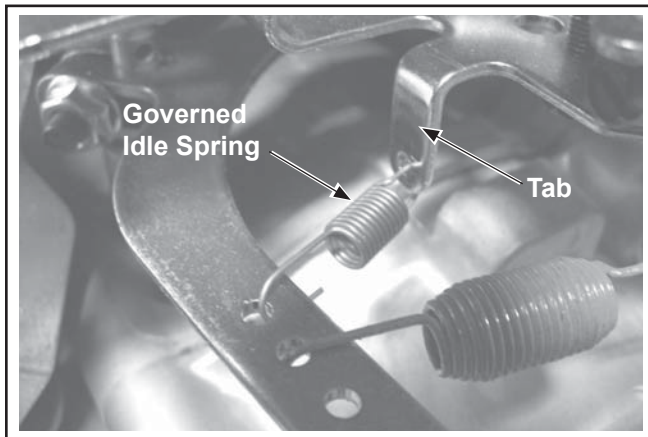

Figure 5-7. Governed Idle Spring Location.
An optional governed idle control system is supplied on some engines. The purpose of this system is to maintain a desired idle speed regardless of ambient conditions (temperature, parasitic load, etc.) that may change. Engines with this feature contain a small secondary spring connected between the governor lever and the lower adjustment tab of the main bracket. See Figure 5-7.
3. Release the governor lever and allow the engine to return to the governed idle speed. Check it with a tachometer against the equipment manufacturers recommended idle speed. Governed Idle Speed (RPM) is typically 300 RPM (approximate) higher than the low idle speed. If adjustment is necessary, bend the adjusting tab on the speed control assembly to set. See Figure 5-7.